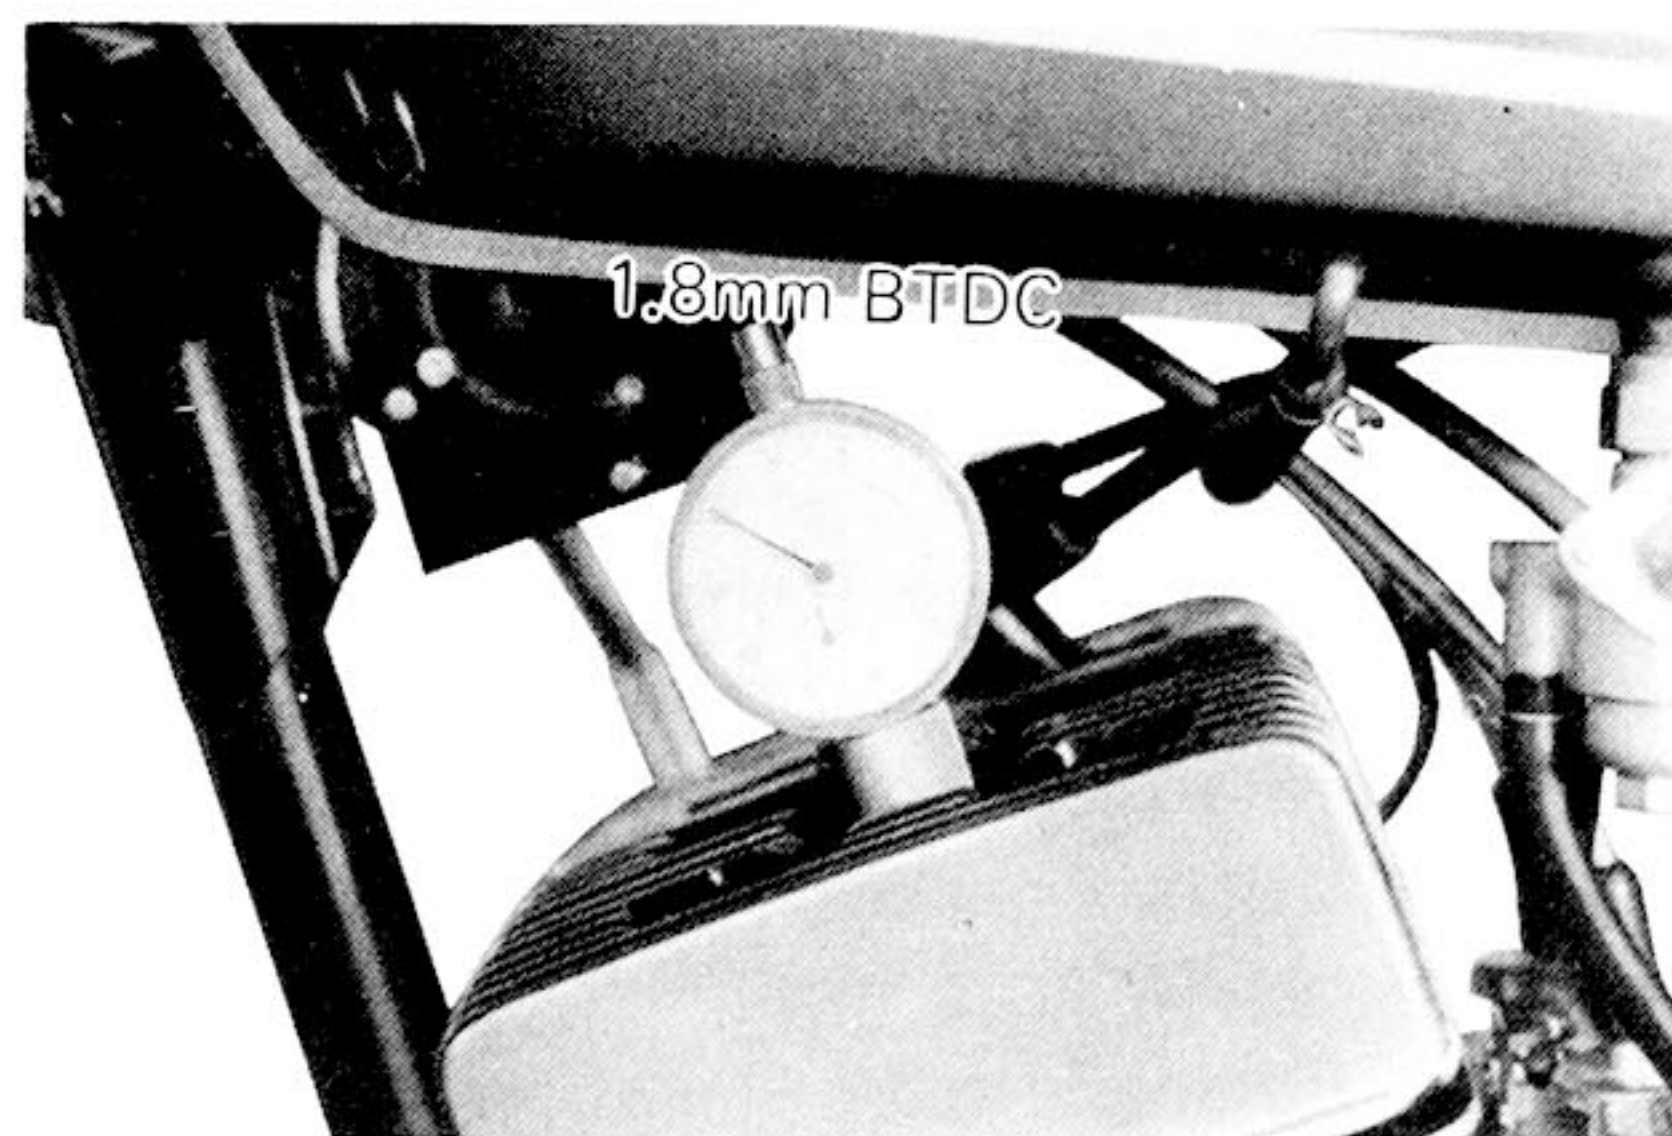

Fig. 6-5-14
- (4) Screw the dial gauge adapter (B) into the spark plug hole of either cylinder head and install the gauge. Tighten the gauge set screw with finger pressure only. Turn the armature bolt counterclockwise until the piston reaches Top Dead Center. At this point the dial gauge needle will pause. Turn the dial gauge face until the zero indicator lines up with needle. (Fig. 6-5-14)